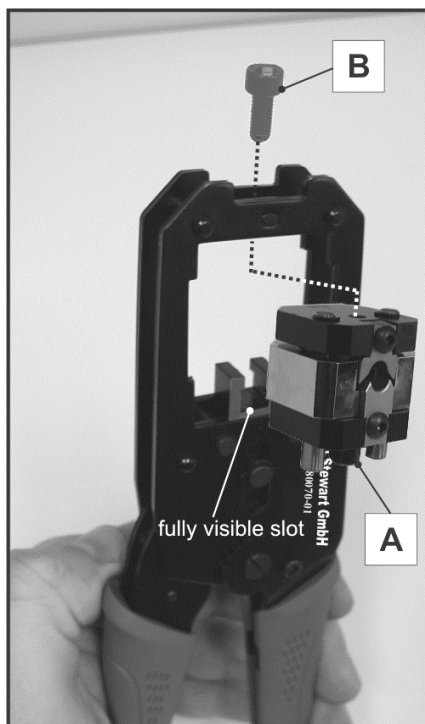

Fig.1.
- ☐ In order to place the dies-set in the toolframe, close the handles just as enough as to make the slot on pusher fully visible (do not close it fully) (Fig.1).